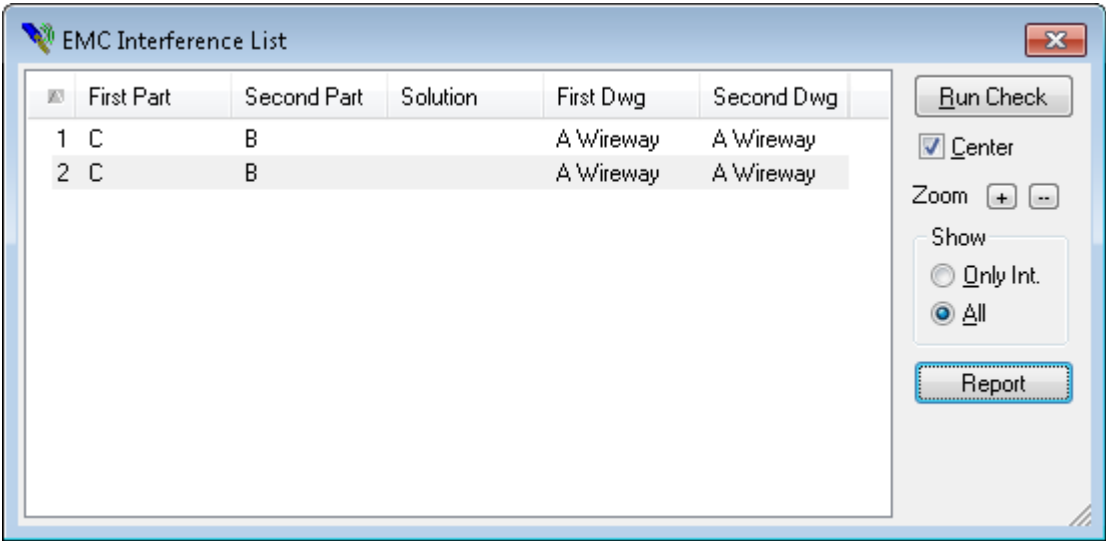

Figure 81: EMC Interference Check dialog
- 1. Run SCEmcCheck and it will open the EMC Check dialog shown in Figure 81. Initially the list of interferences will be empty.
- Click the Run Check button to check for interferences in the current drawing. Figure 81 shows that two interferences were found in the current drawing.